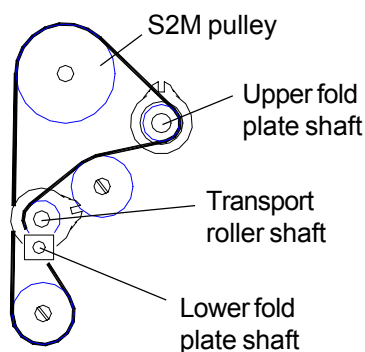

Fig. 17
3. Remove the lower shaft for fold plate 1 drive belt, as described in section 3.2.4, 'Fold Plate 1' on page 3-8. Ignore all steps relating to the upper shaft - this need not be removed, nor the drive belt (see Fig. 17 below).
1. Undo all screws retaining the black subframe on the LH side and slide off the S2M pulley shown in Fig. 17 (the subframe will move sufficiently to allow this).